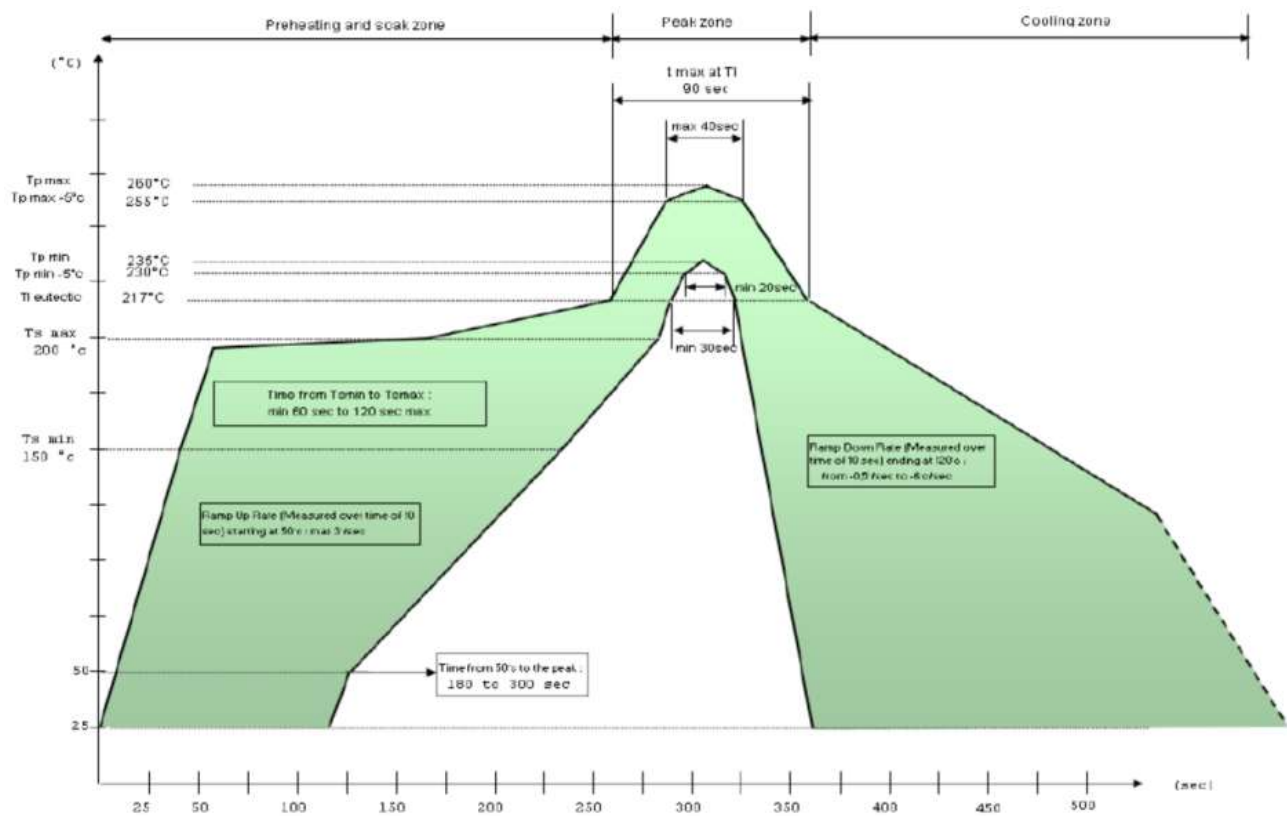

Fig. 1
5.1 Reflow Profile (see Fig. 1)